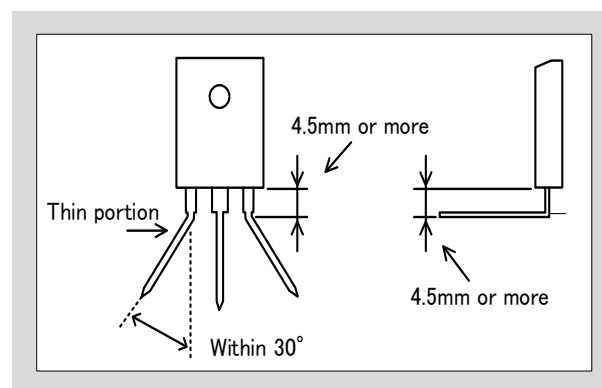

Fig.6-4 Cautions in molding terminals
- When bending the terminal in the horizontal direction, bend it at a distance of 4.5mm or more away from the package, and keep the bending angle within 30° (Fig.6-4).